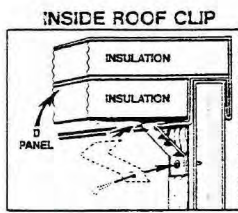

FIG. 1C
C. Insert **Inside Roof Clips** in "D" (roof) panel. Using one (1) hexhead screw in each clip attach clip to "B" (side) panel (FIG 1C).